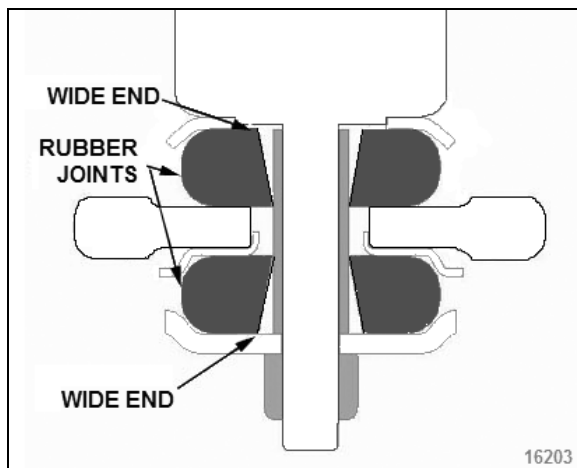

FIGURE 35: LOWER SHOCK MOUNTING BUSHINGS
4. On the lower mounting, take care to install the rubber joints with the wide end of the tapered hole as shown in Figure 35.